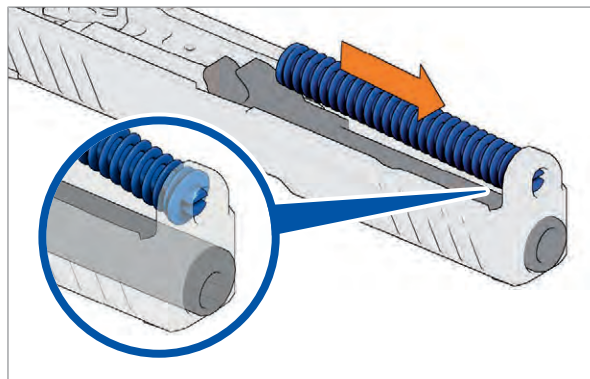

Fig. 54: Mounting position of recoil spring
3. Insert recoil spring into slide (*Fig. 54*).